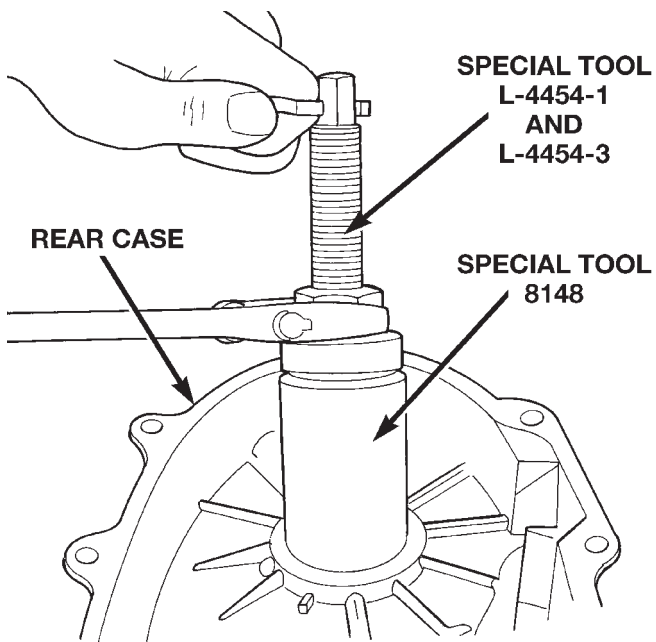

Fig. 44 Output Shaft Rear Bearing Removal
(7) Remove the output shaft rear bearing with the screw and jaws from Remover L-4454 and Cup 8148 (Fig. 44).